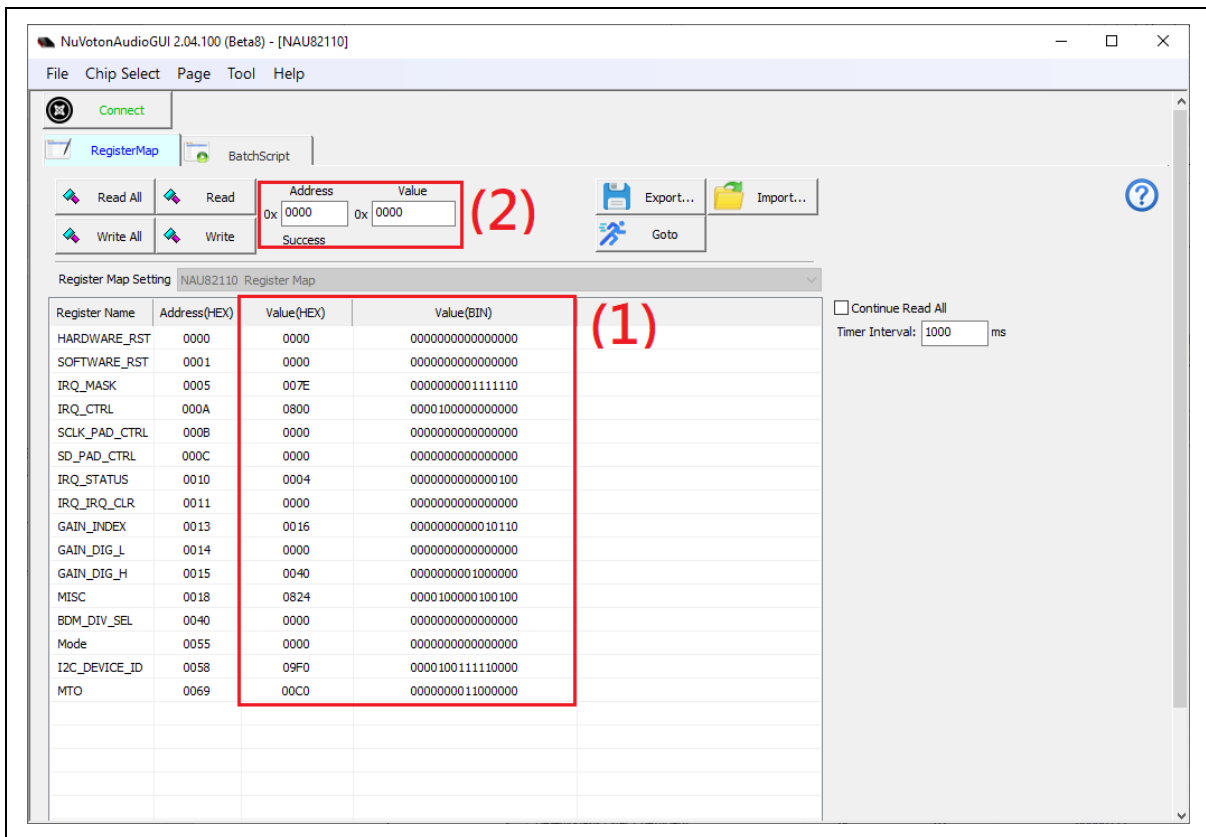

Figure 3-8 Register Map Page on NuvotonAudioGUI
- Users can directly key in desired register values into the "Value" field next to the corresponding address, as shown in Figure 3-8. ("Value" has hexadecimal and binary column respectively, just select one to modify.)
- If users want to read the specified address value, enter the address value in the "Address" field, as shown in Figure 3-8. After clicking the [Read] button on the left, the address value will be displayed in the "Value" field. If users want to modify the specified address value, enter the desired address and corresponding value in the "Address" and "Value" fields respectively, and click the [Write] button on the left to complete the modification.